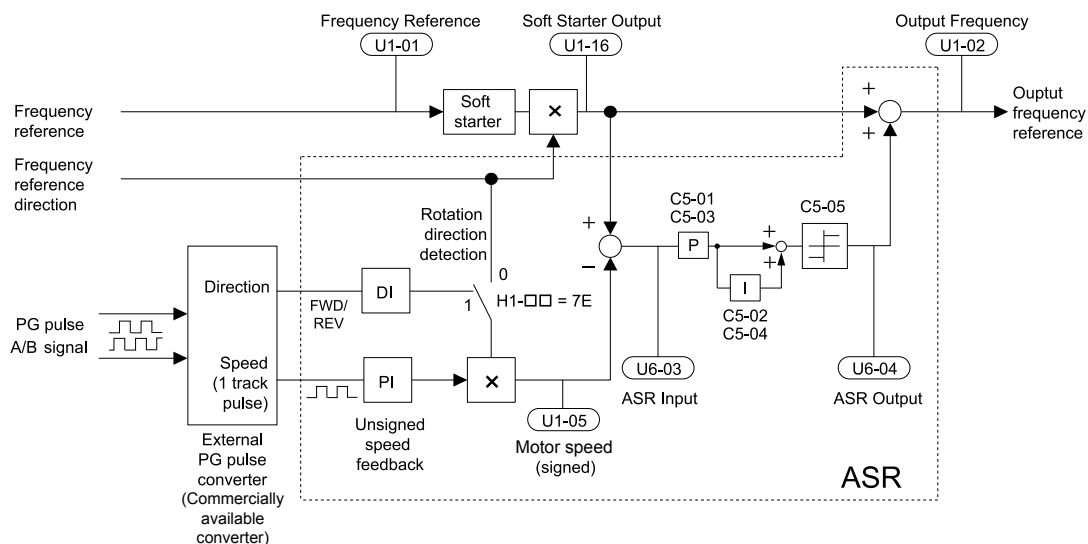

Figure 5.30 Speed Control with ASR in V/f with Simple Speed Feedback
*Figure 5.30* illustrates the ASR function when using V/f with Simple Speed Feedback.